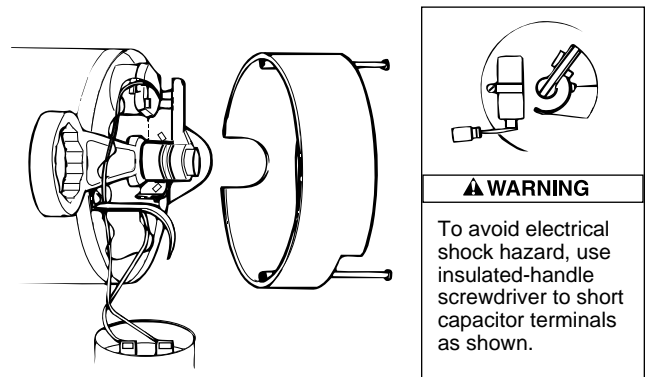

Figure 15 – Hold Shaft
2. If impeller must be replaced, loosen two machine screws and remove motor canopy (see Figure 15).
3. **▲ WARNING** Capacitor voltage may be hazardous. To discharge capacitor, hold insulated handle screwdriver **BY THE HANDLE** and short capacitor terminals together (see Figure 15). Do not touch metal screwdriver blade or capacitor terminals. If in doubt, consult a qualified electrician.